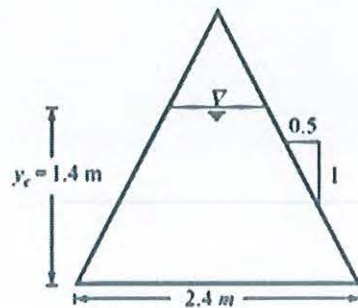

Figure 2
5. Water flows in a Δ shaped channel shown in **Figure 2**. Critical depth is known to occur at a section in this canal. Estimate the discharge and specific energy corresponding to an observed critical depth of 1.40 m. [8]